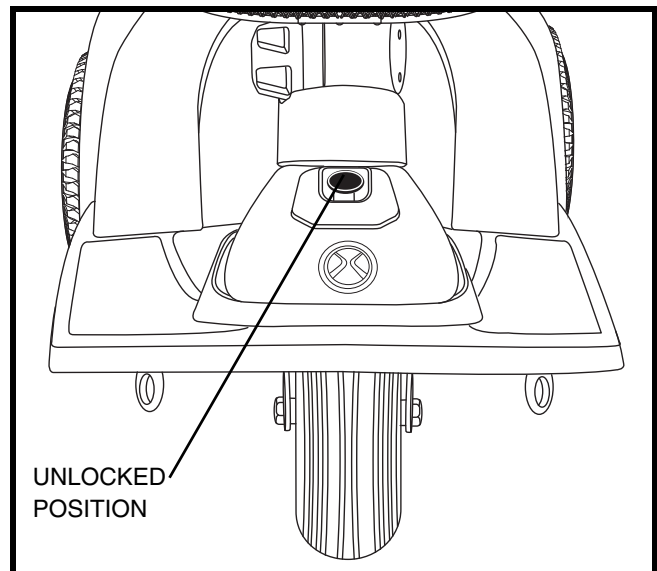

Figure 20A. Tiller Lock Knob (Unlocked)
9. Unlock the front wheel by turning the tiller lock knob 90° anticlockwise. See figure 20A.